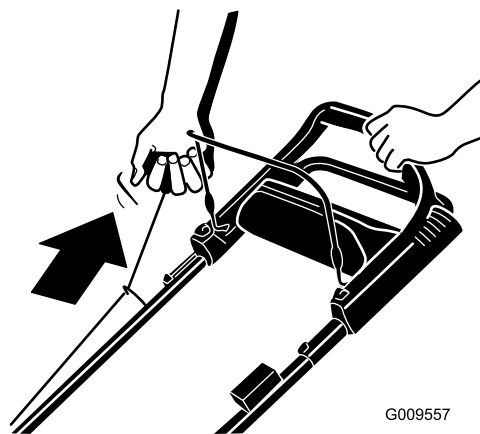

Figure 14
**Note:** You can start the engine either from the operating position (Figure 14) or at the engine (with the recoil-start handle out of the rope guide).